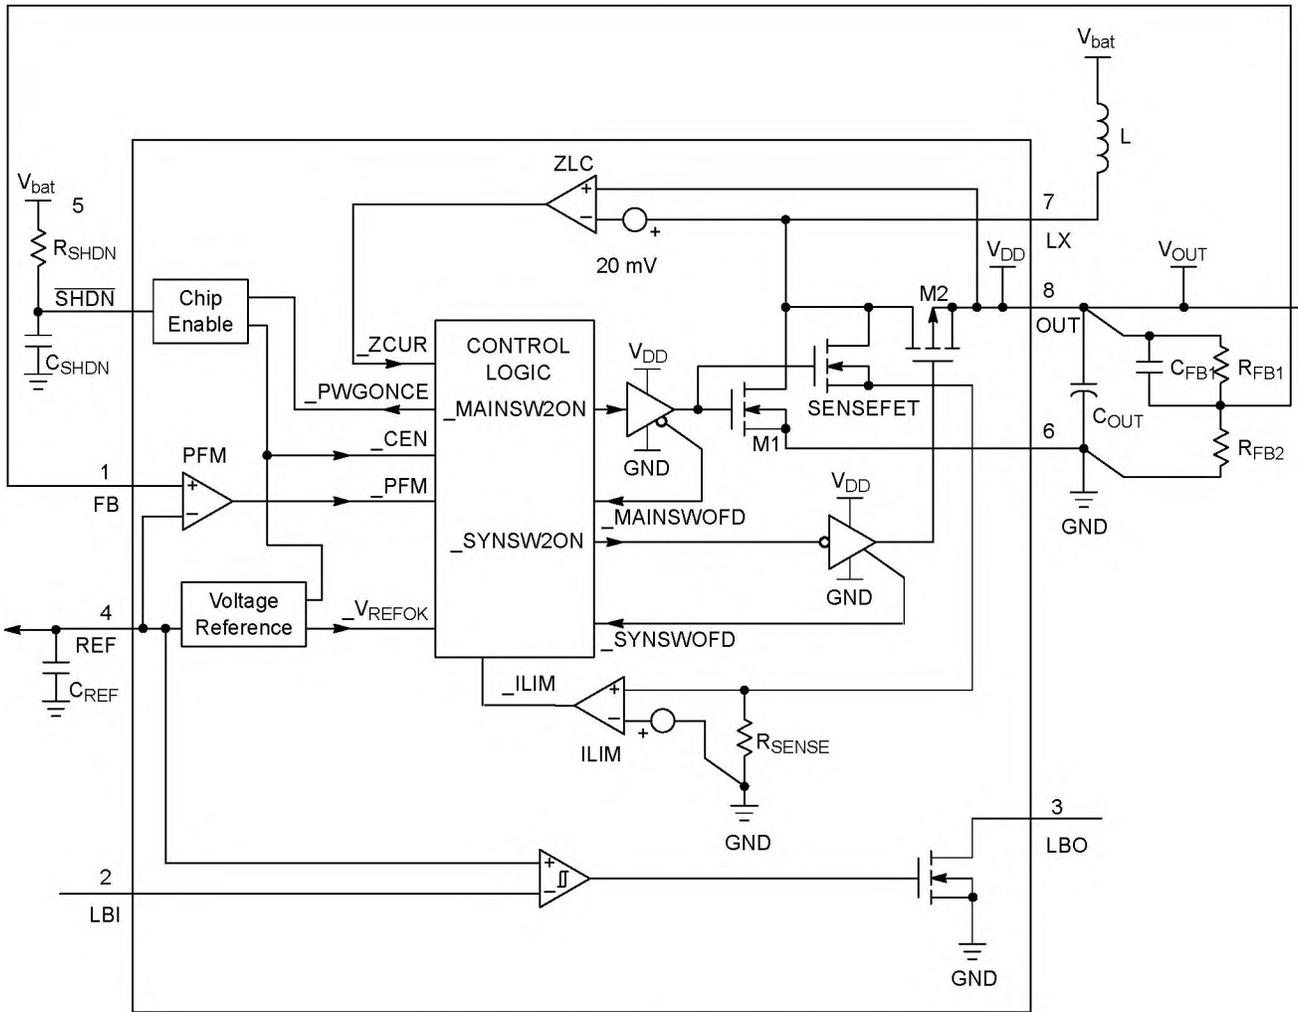

Figure 2. Simplified Functional Diagram
From the simplified Functional Diagram (Figure 2), the output voltage is divided down and fed back to pin 1 (FB). This voltage goes to the non-inverting input of the PFM comparator whereas the comparator's inverting input is connected to REF. A switching cycle is initiated by the falling edge of the comparator. At the moment, the main switch (M1) is turned ON. After the maximum ON-time (typical 1.4 μ S) elapses or the current limit is reached, M1 is turned OFF, and the synchronous switch (M2) is turned ON. The M1 OFF time is not less than the minimum OFF-time (typical 0.31 μ S), this is to ensure energy transfer from the inductor to the output capacitor. If the regulator is operating at continuous conduction mode (CCM), M2 is turned OFF just before M1 is supposed to be ON again. If the regulator is operating at discontinuous conduction mode (DCM), which means the coil current will decrease to zero before the next cycle, M1 is turned OFF as the coil current is almost reaching zero. The comparator (ZLC) with fixed offset is dedicated to sense the voltage drop across M2 as it is conducting. When the voltage drop is below the offset, the ZLC comparator output goes HIGH, and M2 is turned OFF. Negative feedback of closed loop operation regulates voltage at pin 1 (FB) equal to the internal voltage reference (1.190 V).
From Figure 2, SENSEFET is applied to sample the coil current as M1 is ON. With that sample current flowing through a sense resistor, sense-voltage is developed. Threshold detector (ILIM) detects whether the sense-voltage is higher than preset level. If it happens, detector output signifies the CONTROL LOGIC to switch OFF M1, and M1 can only be switched ON as next cycle starts after the minimum OFF-time (typical 0.31 μ S). With properly sizing of SENSEFET and sense resistor, the peak coil current limit is set at 1.0 A typically.
The IC is shutdown when the voltage at pin 5 ($\overline{\text{SHDN}}$) is pulled lower than 0.3 V. During shutdown, M1 and M2 are both switched OFF, however, the body diode of M2 allows current flow from battery to the output, the IC internal circuit will consume less than 0.05 μ A current typically. If the pin 5 voltage is pulled higher than 0.6 V, for example, by a resistor connected to VIN, the IC is enabled, and the internal circuit will only consume 9.0 μ A current typically from the OUT pin. Refer to Figure 2, the product of R_{SHDN} and C_{SHDN} must be larger than (500 k \cdot 56 nF, i.e. 28 msec). This is to provide reset pulse for startup as battery is plugged in.